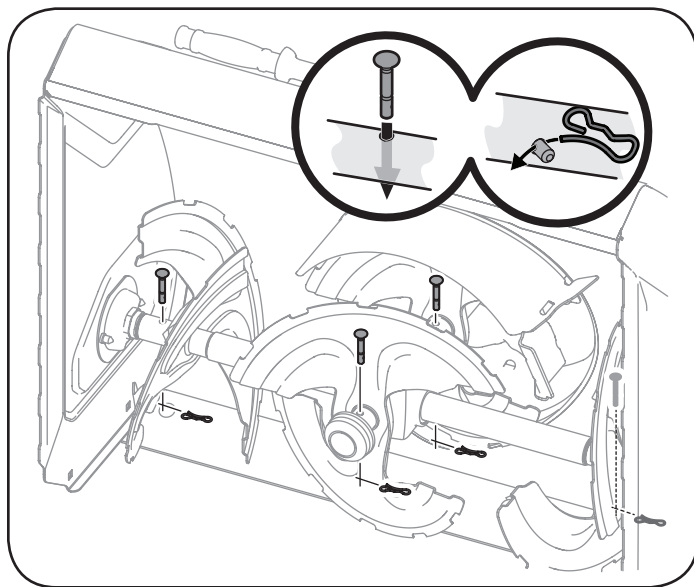

Figure 51
- The side augers and central accelerator auger are secured to the spiral shaft using black shear pins (OEM Part No. 738-05273). See Figure 51.